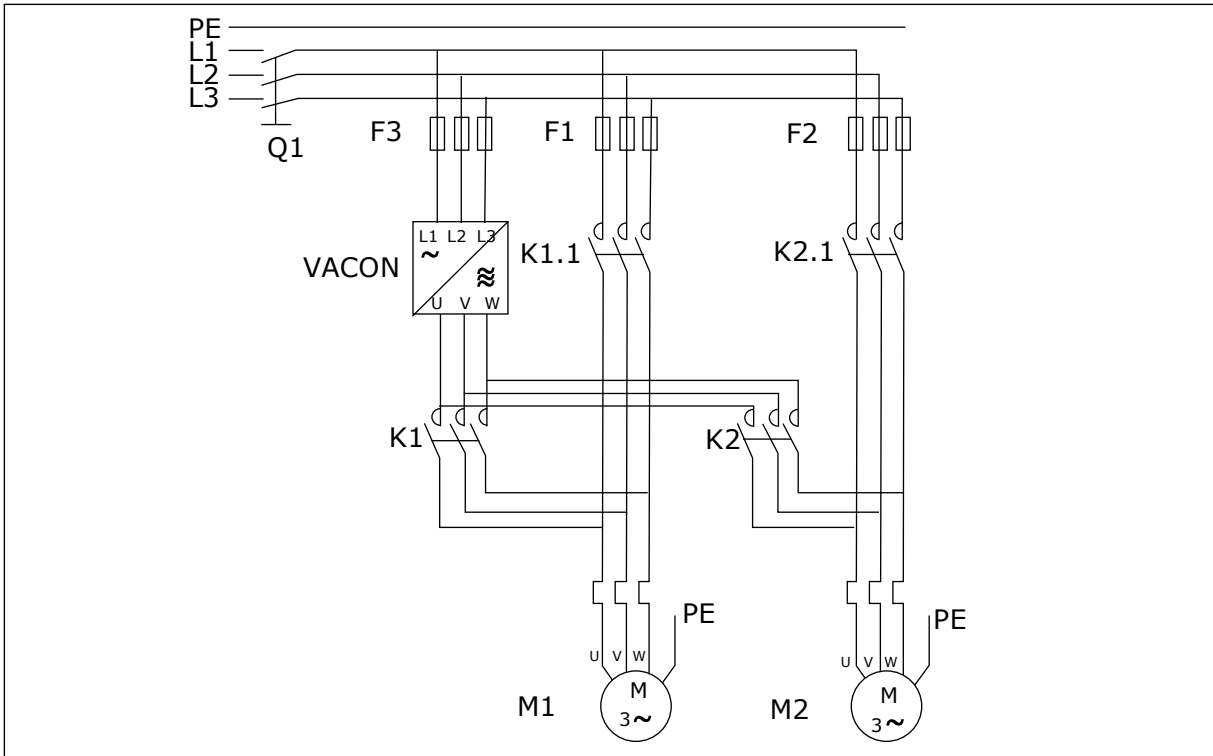
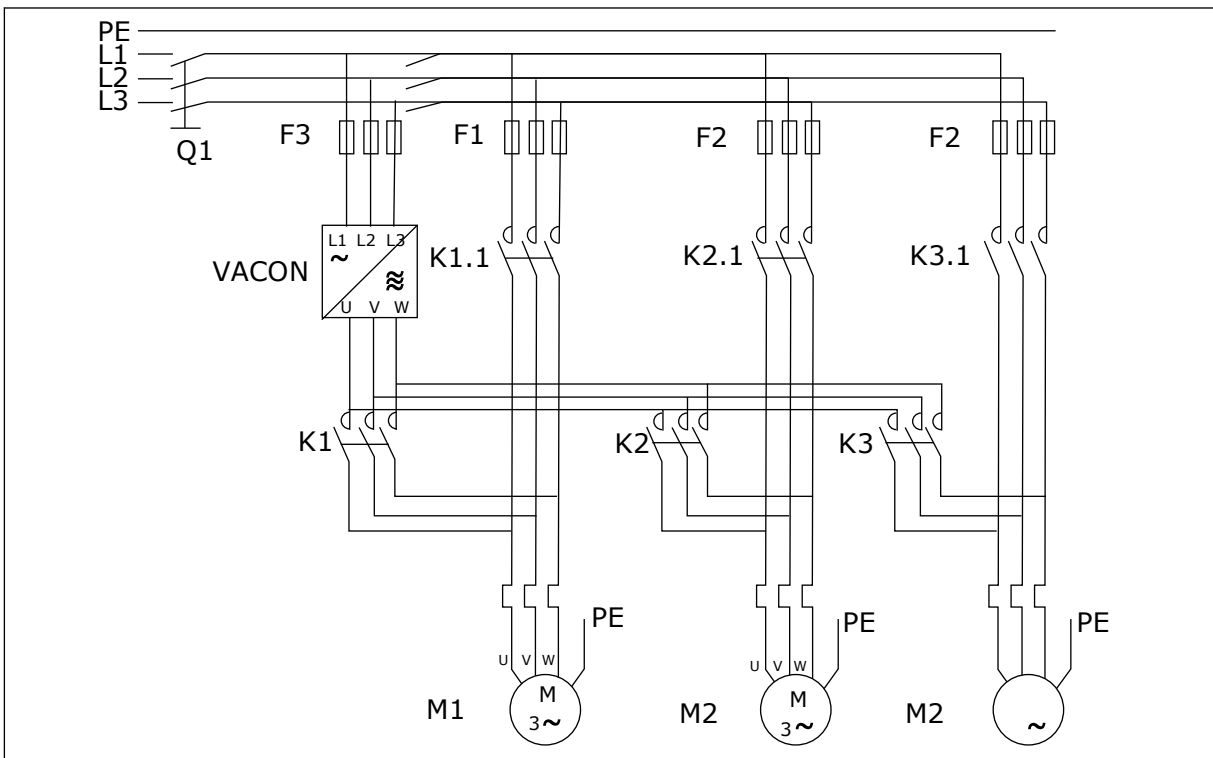

Fig. 98: Example of 2-pump autochange, main diagram
Fig. 99: Example of 3-pump autochange, main diagram
- External contactors controlled through the relay outputs of the AC drive connect the drives to the AC drive or to the mains. If the motor controlled by the AC drive is included in the autochange sequence, it is always controlled through the relay output activated first. The other relays activated later control the auxiliary drives (see *Fig. 98 Example of 2-pump autochange, main diagram* and *Fig. 99 Example of 3-pump autochange, main diagram*).
The automatic change of starting and stopping order is activated and applied to either the auxiliary drives only or the auxiliary drives and the drive controlled by the AC drive, depending on the setting of parameter 2.9.25, Automatics selection. By default, the Autochange is activated for 2 drives. See *Fig. 19 Pump and fan control application default I/O configuration and connection example (with 2-wire transmitter)* and *Fig. 98 Example of 2-pump autochange, main diagram*.